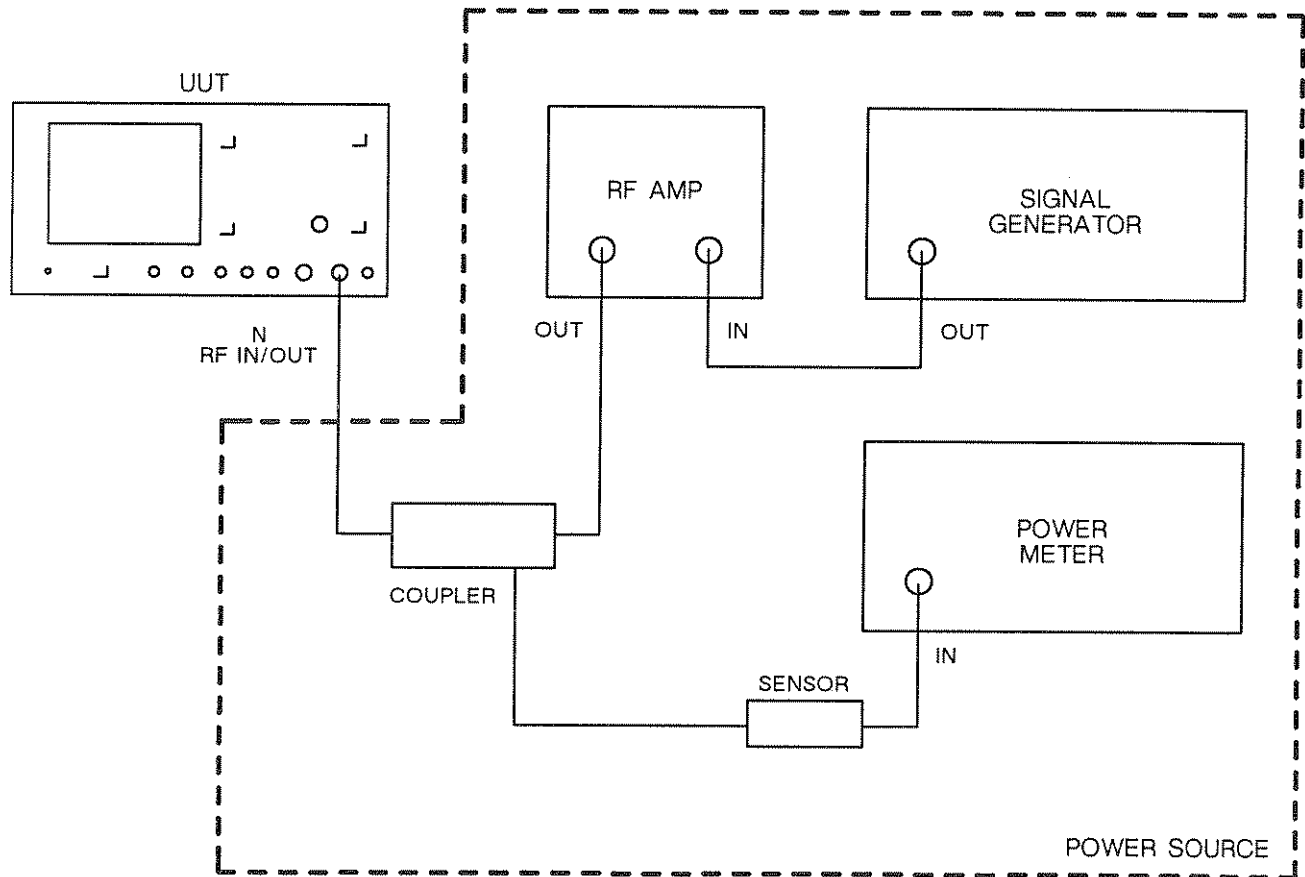

Fig. 5-17 Test equipment connections for RF power meter measurement accuracy
- (1) Connect the equipment as shown in Fig. 5-17, using the high frequency coupler. But note that the power source must be calibrated at the frequencies to be checked.
- (2) Set the UUT to TX, N input socket.
- (3) Set the power source to give an output of 2 W at 100 MHz.
- (4) Check that the UUT indicates 2 W $\pm 10\%$ ± 1 digit.
- (5) Set the power source to give 220 mW.
- (6) Check that the UUT indicates 220 mW $\pm 10\%$ ± 1 digit.
- (7) Repeat the above for random frequencies between 100 and 500 MHz.
- (8) Repeat for random frequencies between 500 and 960 MHz and check that the UUT indicates the power sent $\pm 15\%$ ± 1 digit.
- (9) Repeat for random frequencies between 960 and 1000 MHz and check that the UUT indicates the power sent $\pm 20\%$ ± 1 digit.
- (10) Replace the high frequency directional coupler (HP 778D) with the low frequency coupler.
- (11) Repeat the above checks for random frequencies between 1.5 and 100 MHz and check that the UUT indicates the power sent $\pm 10\%$ ± 1 digit.